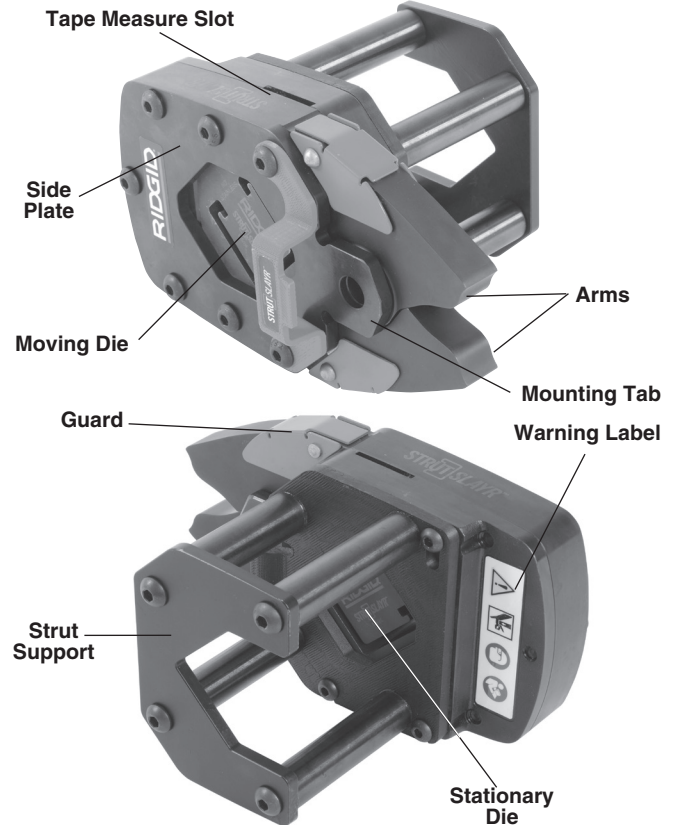

Figure 1 – STRUTSLAYR Shear Head
- Proper assembly and completeness (See Figure 1).
- Presence and readability of Warning Decal (As shown in Figure 1).